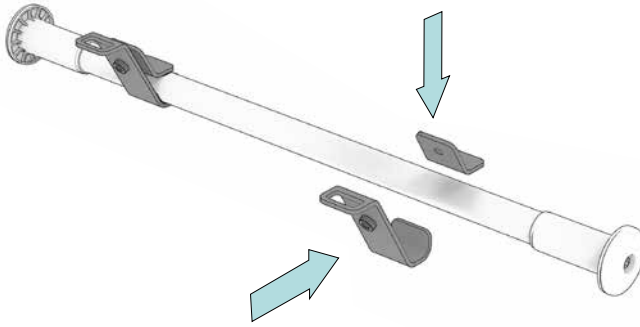

Fig. 3
The connection is now clamped to the rail by using the short plate ③ and the tommy screw ④. Tighten the screw connection only very slightly to enable alignment at a later time (Figs. 3 and 4).